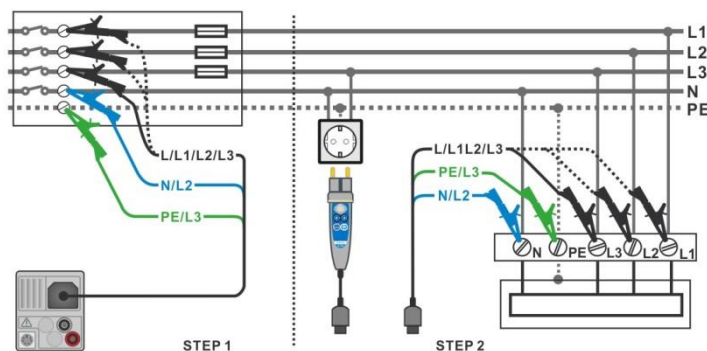

Figure 7.53: Voltage drop measurement – connection of Plug commander and 3-wire test lead
- › Connect test leads to the origin of electrical installation, see **Figure 7.53**.
- › Connect test leads or Plug commander to the tested points, see **Figure 7.53**.